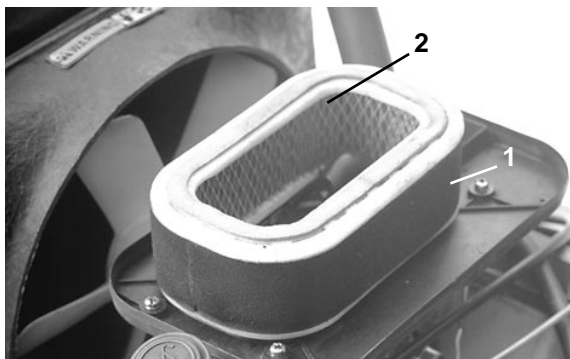

Figure 20
2. If the foam element (Fig. 20) is dirty, remove it from the paper element. Clean it thoroughly.